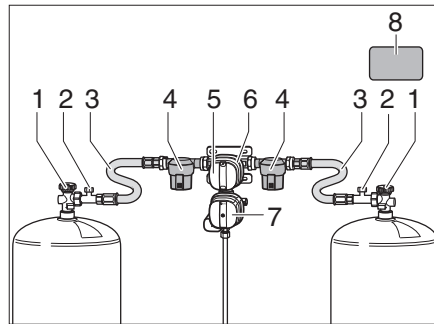
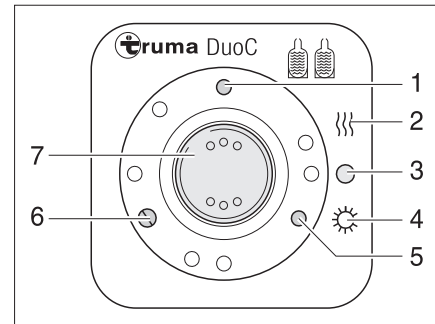
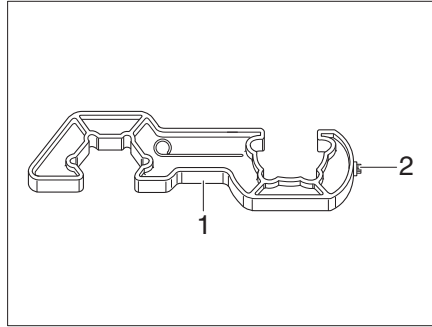
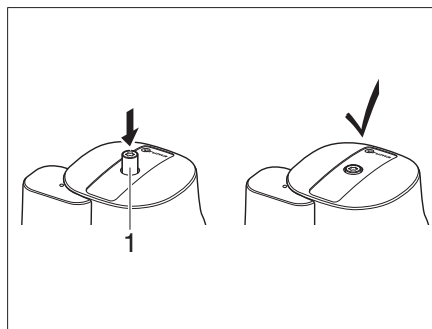

Fig. 233 DuoControl switching facility
Fig. 234 Operating unit
Fig. 236 Screw aid
Fig. 237 Crash sensor
The DuoControl switching facility consists of a switching valve (Fig. 233,6) and the operating unit (Fig. 234). The switching valve is mounted between the high-pressure hoses (Fig. 233, 3). The knob (Fig. 233,5) on the switching valve is used to select which of the gas bottles is to be used as a primary bottle and which is to be used as a reserve bottle.
The switching valve (Fig. 233,6) is equipped with the regulator defroster "EisEx". This prevents damage to the gas system during the winter months.
A gas filter (Fig. 233,4) that protects the gas system against oil and other contamination is located on each side before the switching valve.
Only the electrical functions can be switched at the operating unit (Fig. 234). The regulator taps (Fig. 233,1) on the gas bottles must be opened manually.
The switching valve provides a constant gas pressure, regardless of which gas bottle is being drawn upon. The two indicator lamps on the operating unit show the filling level of the primary bottle. The primary bottle is full when the green indicator lamp (Fig. 234,6) lights up. The primary bottle is empty when the red indicator lamp (Fig. 234,5) lights up. The gas is then supplied via the reserve bottle.
- Open the regulator taps (Fig. 233, 1) on the gas bottles.
- Use the knob (Fig. 233,5) on the switching valve (Fig. 233,6) to select the gas bottle which is to be the primary source of gas (primary bottle). Always turn the knob as far as it will go.
- Set the rocker switch (Fig. 234,7) to "O" (Fig. 234,3). The yellow indicator lamp (Fig. 234,1) goes out.
- Close the regulator tap (Fig. 233,1) on the gas bottles.
The indicator lamps on the operating unit (Fig. 234,5 and 6) indicate in the vehicle interior whether the primary bottle is ready for operation.
If the green indicator lamp (Fig. 234,6) goes out during operation and the red indicator lamp (Fig. 234,5) lights up, the gas bottle selected as the primary bottle is empty and has to be replaced. The reserve bottle continues supplying the gas appliances with gas.
- ▷ Use the enclosed screw aid (Fig. 236,1) to connect and disconnect the high-pressure hoses. It ensures the required tightening torque and prevents damage to the screw connection through using unsuitable tools.
- Close the regulator tap (Fig. 233, 1) on the empty gas bottle.
- Unscrew the high-pressure hose (Fig. 233,3) from the gas bottle using the screw aid (Fig. 236).
- Connect the full gas bottle to the high-pressure hose (Fig. 233,3).
- Open the regulator tap (Fig. 233, 1) on the gas bottle.
- Set the knob (Fig. 233, 5) on the switching valve (Fig. 233, 6) with half a turn, so that the newly replaced gas bottle will serve as a reserve bottle.
- Press the button (Fig. 233, 2) for the hose break guard at the high-pressure hose to activate it.
- If necessary, press the reset button (Fig. 237, 1) at the crash sensor.
- ▶ Observe the safety label (Fig. 233, 8) in the gas bottle compartment.
- Use the Torx T20 (Fig. 236,2) at the screw aid to press in the safety release knob (Fig. 237,1), turn it slightly clockwise and hold it for 5 seconds. The crash sensor is ready to operate when the safety release knob (Fig. 237,1) remains in the lowered position.
- After replacing the gas bottle press the green button (Fig. 233,2) at the high-pressure hose (Fig. 233,3) vigorously.